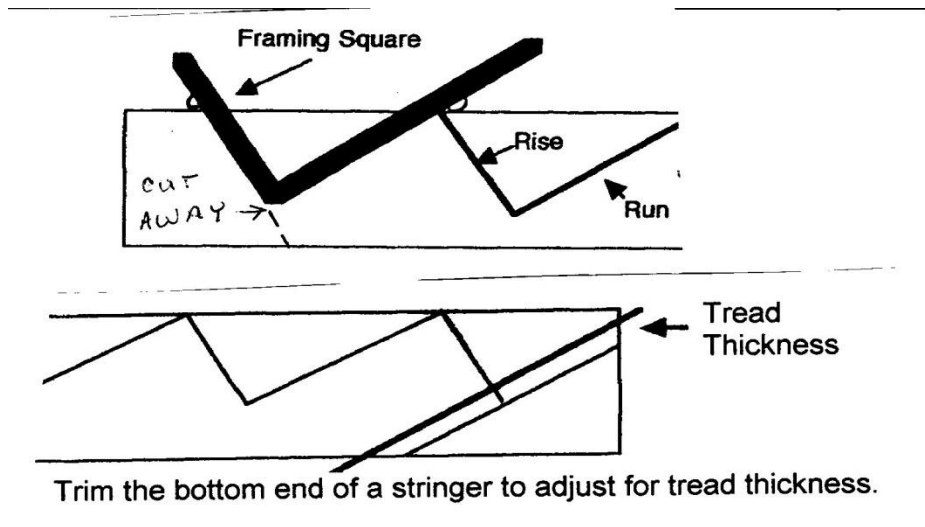

Figure 4-3. Stair Stringer Layout.
2. Attach stair gauges to the framing square and locate the precise dimensions calculated in Section 4.2.1 for run and rise. If the rise is $7\frac{3}{4}$ " , set the gauge to this dimension on the short side of the square; set the gauge to $9\frac{3}{4}$ " on the long side of the square. See Figure 4-3.